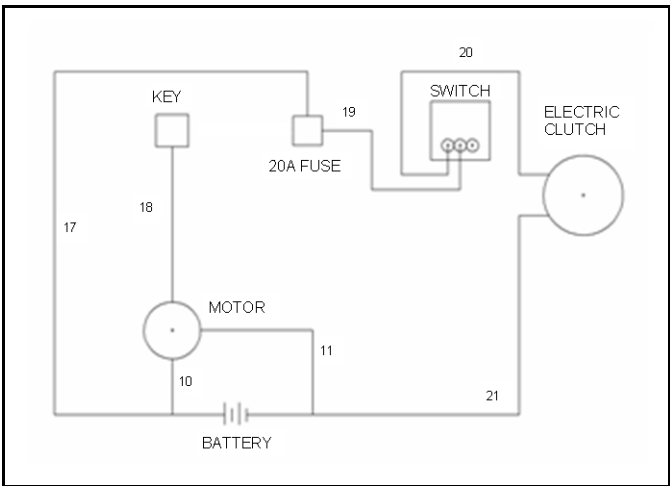

Figure 3.40 Honda
Refer to Figure 3.40 for the appropriate wiring diagram.
3. Wire a 20A fuse and connector to battery positive terminal, and other end to switch (Figure 3.40).
7. Plug extended wire into connectors on key and motor as illustrated in Figure 3.40.
8. Install wires in switch as noted in Figure 3.40.